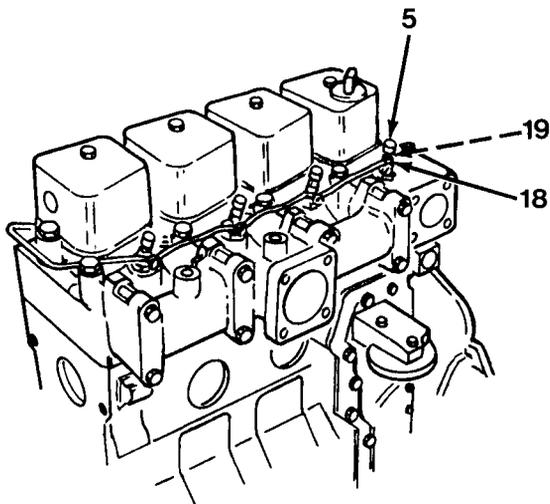
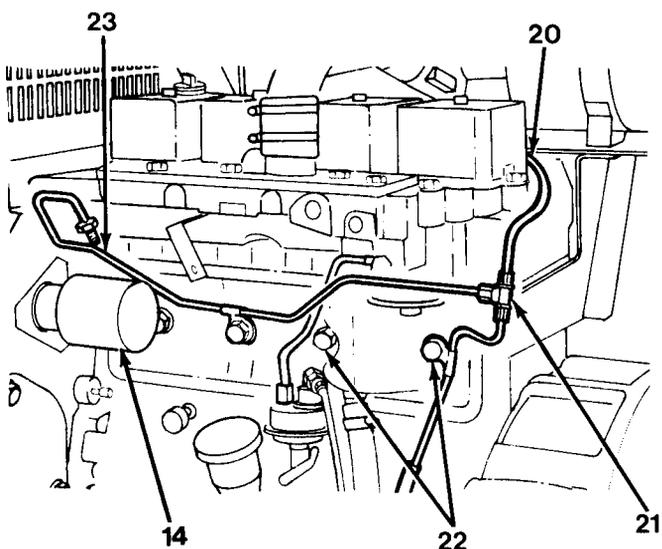

Figure 7-5
Figure 7-6
1. Using a 10 mm wrench, remove four banjo connector screws (18) and banjo connector seals (19) from injectors (5, Figure 7-5). Discard four banjo connector seals (19).
2. Using a 13 mm wrench, remove fuel manifold tube (20) from male union tee (21, Figure 7-6).
3. Using a 10 mm wrench, remove two cap-screws (22) and fuel drain tube (23) from engine and injection pump (14).
1. Install fuel drain tube (23) and two capscrews (22) to engine and injection pump (14, Figure 7-6). Torque two capscrews (22) to 18 lb-ft (24 N•m).
2. Install fuel manifold tube (20) to male union tee (21).
3. Install four new banjo connector seals (19) and banjo connector screws (18) to injectors (5, Figure 7-5). Torque four banjo connector screws (18) to 6.5 lb-ft (8.8 N•m).
4. Install four new copper seals (8) and two capscrews (7) to filter head. Torque two capscrews (7) to 18 lb-ft (24 N•m).